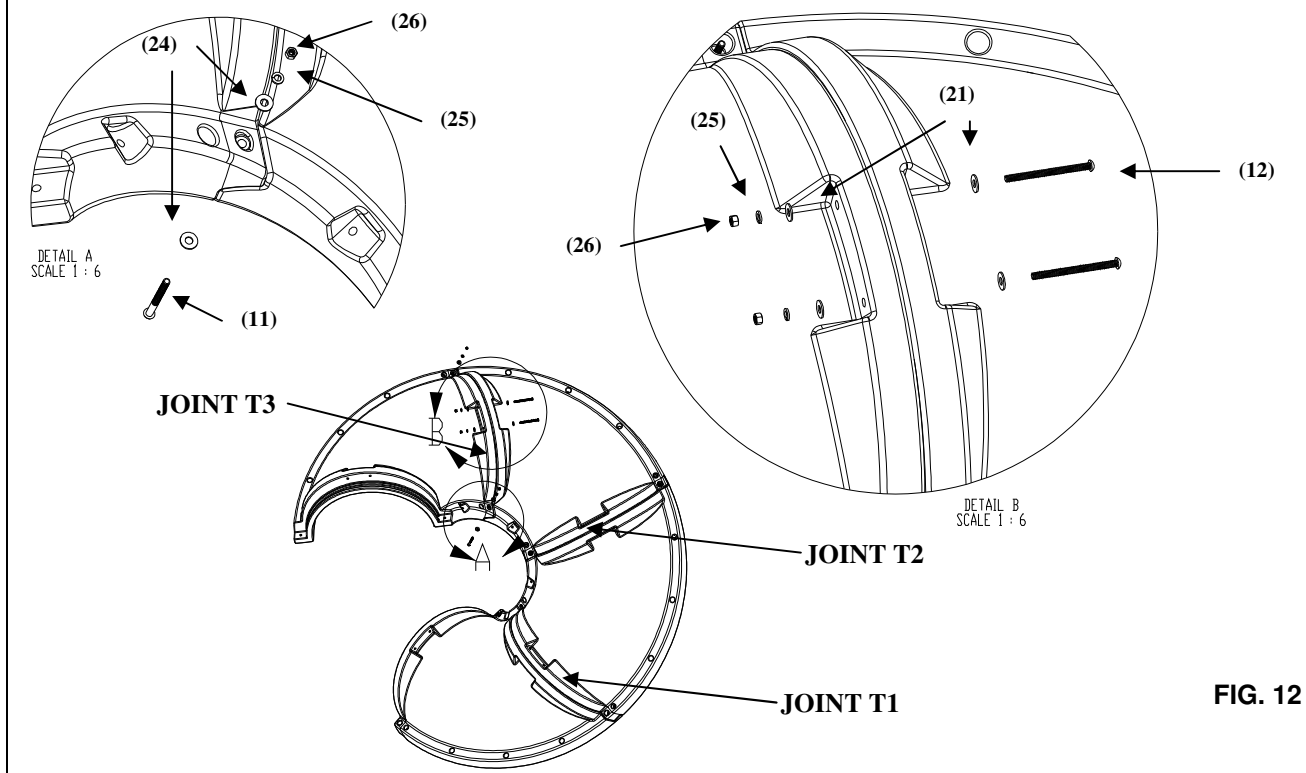

FIG. 12
9) Assemble the four remaining Runway Section (2) pieces. **Order of assembly is important.** The end of each runway section is labeled and must be assembled to the runway section with the same number. Assemble two sections together that are labeled T1 on the mating ends. Fasten the two sections together using the two bolt locations through the side of the parts as shown in Figure 12, Detail A. The hardware required for the two side locations is as follows: 3/8"-16 x 4" Button Head Cap Screw S/S (11), 3/8" Flat Washer S/S (24), 3/8" Flat Washer S/S (24), 3/8" Lock Washer S/S (25), 3/8" Hex Nut S/S (26). Next, finish fastening the parts together as shown in Figure 12, Detail B. The hardware required for this step is as follows: 3/8"-16 x 5" Button Head Cap Screw (12) and a 3/8" Flat Washer S/S (21), 3/8" Flat Washer (21), 3/8" Lock Washer (25), 3/8" Hex Nut (26).